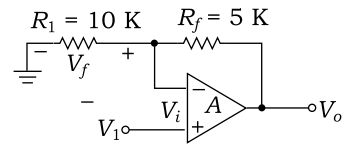

Fig. 4.49
10. The feedback factor of the circuit shown in Fig. 4.49 is